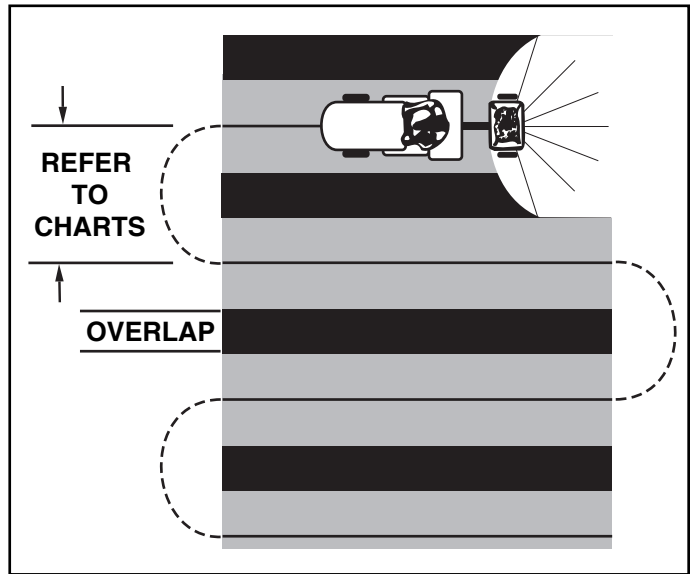

FIGURE 12
10. To insure uniform coverage, make each pass so that the broadcast pattern slightly overlaps the pattern from the previous pass as shown in figure 12. The approximate broadcast widths for different materials are shown in the application chart on this page.